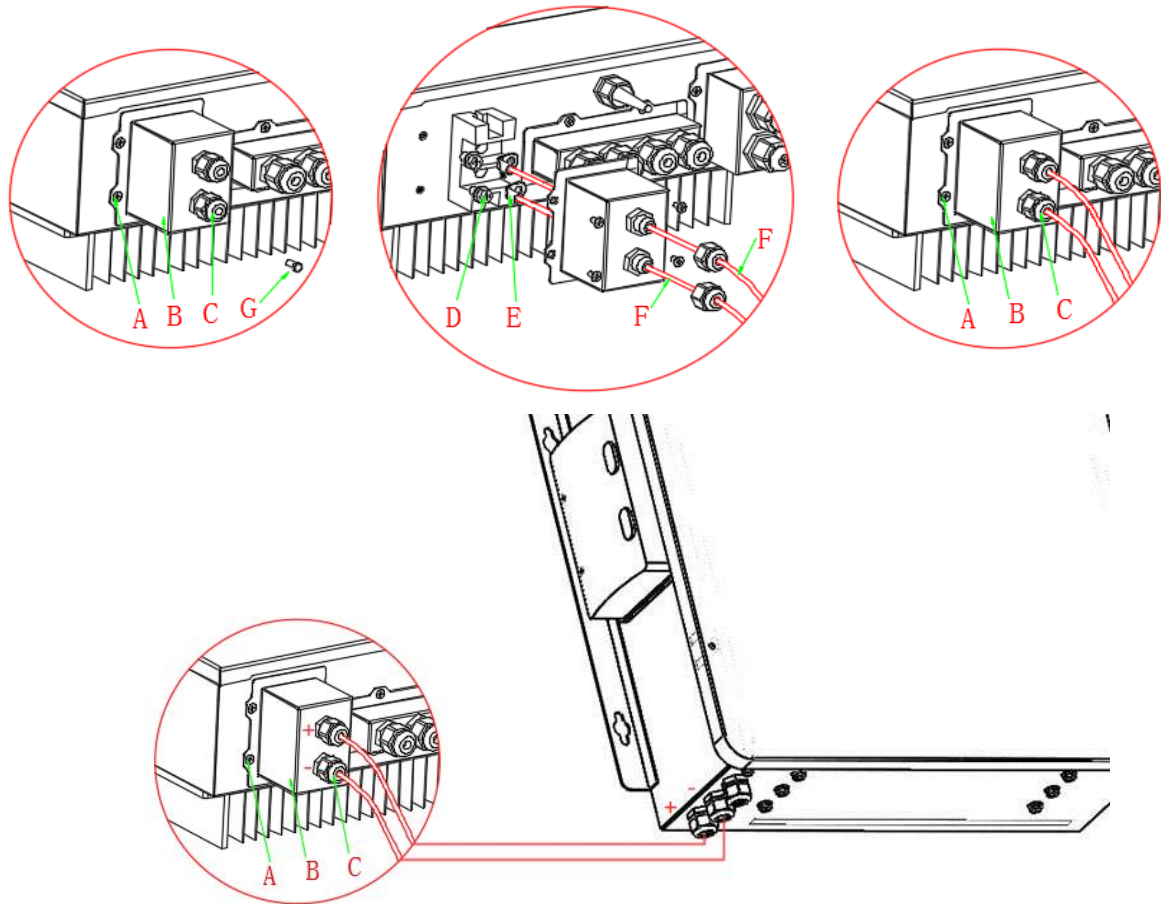

Fig. 6 PowerCube 2.0 connection (Test PowerCube 2.0 wires polarity before connection)
- Step 1:** Loosen 4 screws (A) using a screwdriver (fig. 6);
- Step 2:** Remove the waterproof cover (B), loosen the cable gland (C), and then remove the stopper (G);
- Step 3:** Route the PowerCube 2.0 wires (F) through the cable gland, then connect PowerCube 2.0 wires using crimp ring terminal (E);
Step 2: Loosen 4 screws (part A) using a screwdriver (fig. 6)